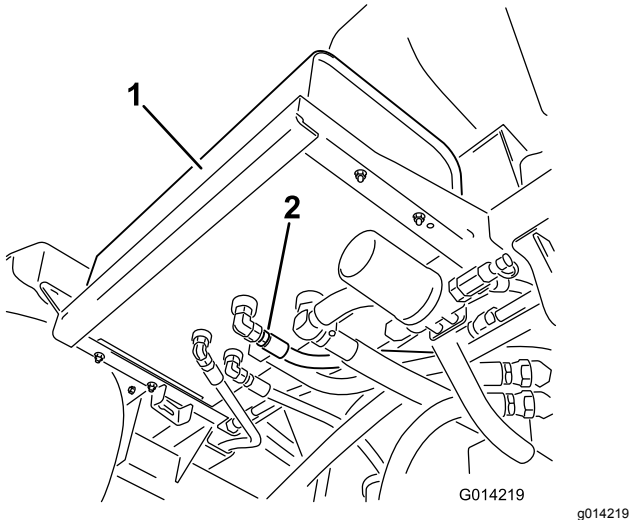

Figure 94
2. Clean the area around a hydraulic-hose fitting on the bottom of the hydraulic-fluid tank (Figure 94).
4. Remove the hose fitting from the tank, allowing the fluid to drain into the pan (Figure 94).